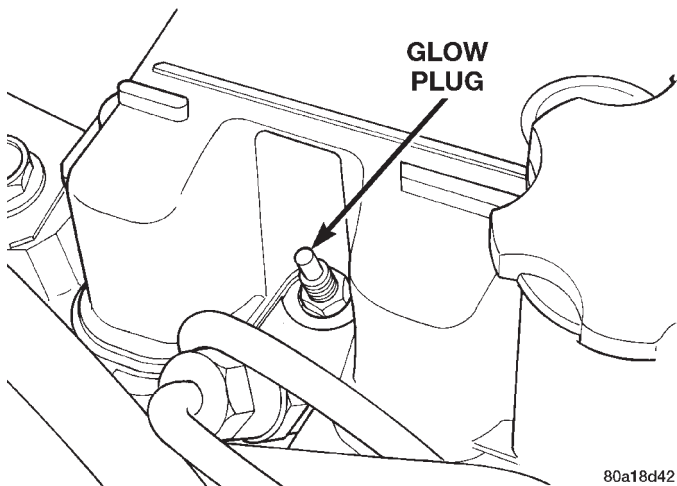

Fig. 22 Glow Plug
The glow plugs are located above each fuel injector (Fig. 22). Four individual plugs are used.
- (4) Remove the glow plug (Fig. 22) from cylinder head.